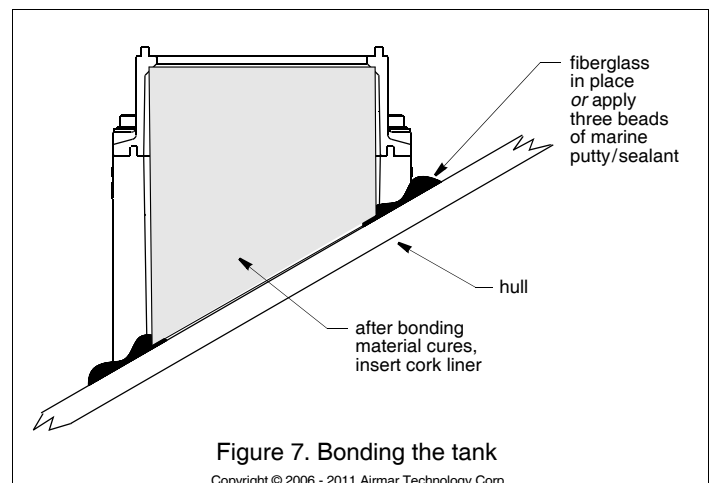

Figure 7. Bonding the tank
3. Use an approved bonding material (see “Tools & Materials” on page 1). Glass the tank to the hull with fiberglass resin, using standard fiberglass technique. Alternatively, apply a generous bead of marine putty/sealant to the bottom edge of the tank following the manufacturer’s instructions (see Figure 7). Press the tank firmly in place. Apply a second bead around the inside of the tank. And apply a third bead around the outside of the tank.
1. After the bonding material has cured, insert the cork liner into the tank (see Figure 7). Butt the edges along the center of the tallest side. Note, there may be a gap, but this will not affect performance.